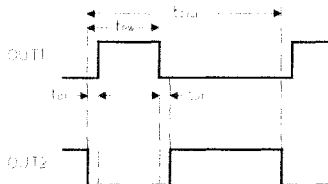
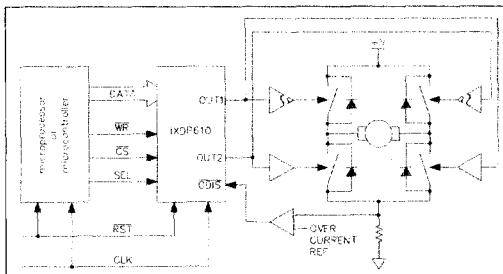

Fig. 2 PWM Cycle Time and Dead-Time Definition
Fig. 3 IXDP610 to DC Servo Motor Full Bridge Block Diagram
Because the IXDP610 is a digital IC, and is programmable, it is possible to tailor the dead-time period (defined as t_{DT} in Fig. 2). IXDP610's programmable dead-time feature is difficult to duplicate in the equivalent analog system. The control of a switching bridge usually involves a process of alternating the "on-time" of two power switches connected in series between a high-voltage and a low-voltage. For example, the H-bridge of Fig. 3 can be operated by turning the upper left and lower right transistors on and leaving the two remaining transistors off, during the first half of the PWM cycle. In the second half of the cycle, the upper right and lower left transistors are on and the remaining two are off. During the
Dead-time counter bits - these three bits determine the dead-time period, as defined by Fig. 2. Dead-time is that period of time when both OUT1 and OUT2 are low. Any binary number from 000 through 111 is valid. Thus, eight different dead-time periods can be programmed. DT0 is the least significant bit and DT2 is the most significant bit. A 000 binary means no dead-time and a 111 means maximum dead-time. Each dead-time count corresponds to two CLOCK periods. For instance, if a binary three (3) is programmed into the dead-time bits, the dead-time will be six external CLOCK cycles long.
In a typical PWM cycle (refer to Fig. 2) two dead-time periods will occur. One follows the turnoff of OUT2. The dead-time counter is triggered by an output turning off. During a dead-time period, both outputs are guaranteed to be off (no dead-time periods occur during 0 % and 100 % duty-cycle states). The dead-time period overlaps the on-time of an output, therefore, it shortens the on-
time without affecting the base PWM cycle time. A dead-time period is only inserted if an output changes from high to low (on to off). Thus, if a PWM duty cycle is chosen such that an output would be on for a period of time equal to or less than one dead-time period, the switch associated with that output will not be turned on during the PWM cycle. In this special case, one will observe only dead-time period per PWM cycle time, rather than the two dead-time periods shown in Fig. 2.
The Pulse Width number that is written to the Pulse Width latch represents the high time of OUT1 (the low time of OUT2). The Dead-time Counter decreases the on-time (output high) of an output by one dead-time period (t_{DT}). See Fig. 2 and the description of the dead-time bits in the Control latch to determine the duration of one dead-time period.
"PWM cycle time" is t_{CYCLE} in Fig. 2.